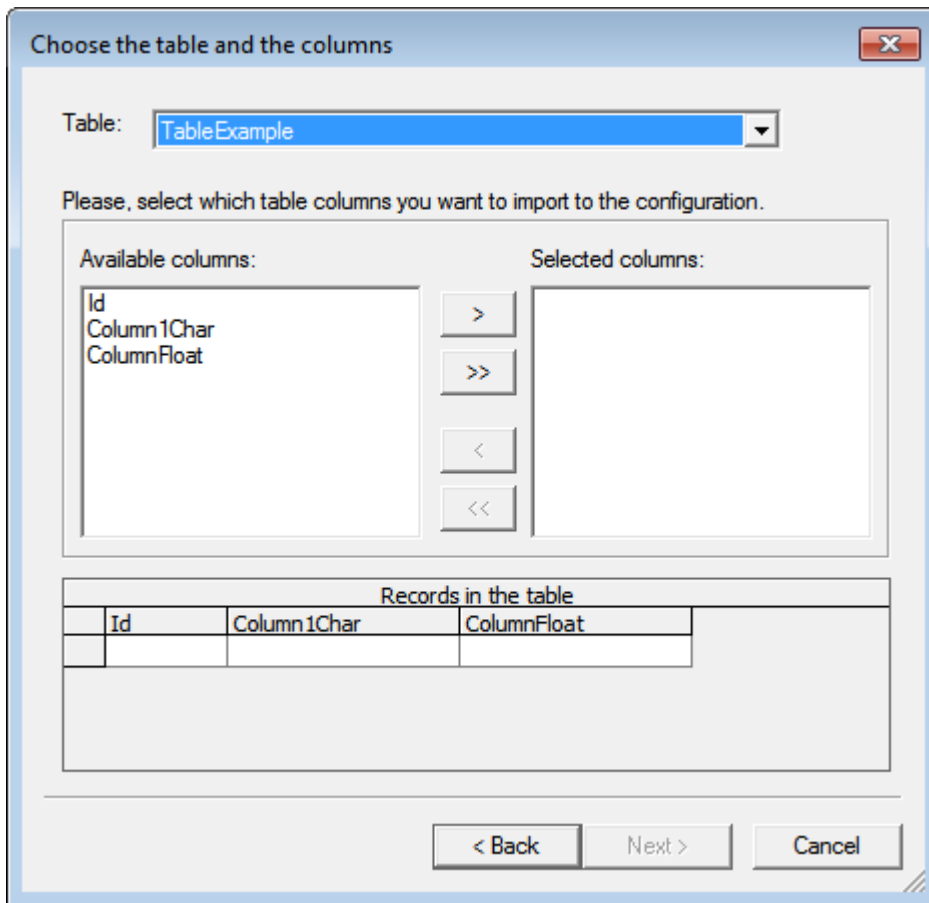

Figure 2: Choosing columns (only not configured columns are shown between available columns) to put into the configured table
2. Choosing table from database that have to be mapped to configuration (**Figure 2**)